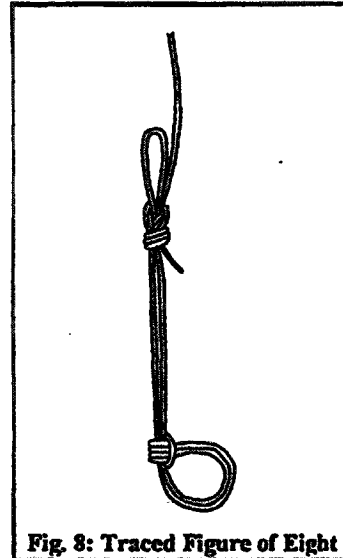

Fig. 8: Traced Figure of Eight
Complex Pulley Systems are characterized by being neither simple nor compound. There is no one definition that characterizes all complex systems due to their great diversity. With only 4 pulleys, over 100 combinations of pulley systems can be made, most of them being complex pulley systems. With the exception of a few common complex pulley systems such as the "Spanish Burton" shown in Figure 8, complex pulley systems are not often seen being used in rescue work. Typically, similar objectives can be met using Simple or Compound Pulley Systems that are easier for rescuers to recognize and are more flexible for modifications as required.
4. Trace the remaining length of cord through the Figure of Eight until the two cords exiting the Prusik Hitch upon Itself are the same length (Fig. 8). The remaining cord should exit the Figure of Eight towards the bight. Either cut the remaining cord off now (leave enough tail), or repeat steps 1-4 with the other end of the cord to make the medium foot Prusik, except this time, use your inseam/groin as your new landmark height (Fig. 2).